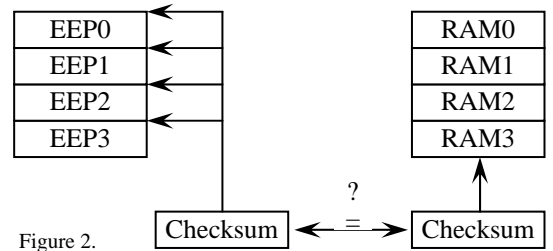

Figure 2.
- 4) Data to be written to the E²prom should be temporarily held in the RAM (see fig 2); at this point, a checksum is calculated and also held in the RAM. This checksum is recalculated and compared with the first checksum immediately before writing each 4-bit word to the E²prom. If the two checksums correspond then there has been no corruption of the data by extraneous interference. When all words have been written, the RAM is erased and the checksum is also written to the E²prom. When the recorded data is read from the memory, the checksum is again recalculated and compared to the recorded checksum. If they match it signifies that there were no problems during writing.